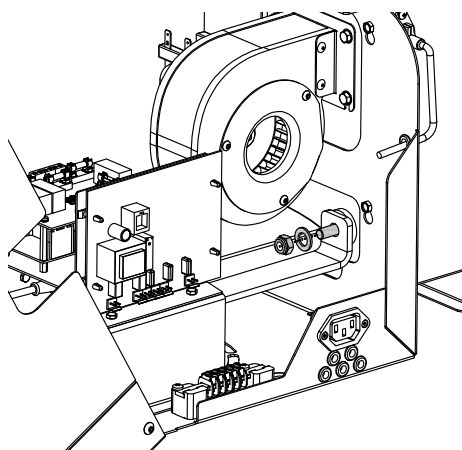

Fig. 25 Unscrewing the nut fastening the actuator to the frame of the burner.
3. Inside the casing of the burner: unscrew the nut which holds the supporting leg of the actuator to a frame of the burner (Fig. 25);